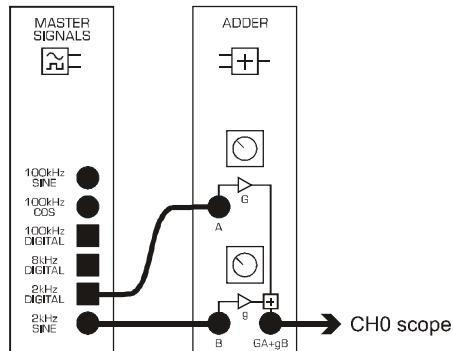

Figure 11: "adjust_the_ADDER" wiring diagram
1. Use patching cords to wire up DATEx blocks according to the wiring diagram in Figure 11.
The AMPLIFIER block on DATEx has one input and one output. This input has variable GAIN. Hence the parameter available for programmatic control is the input GAIN. This is known as "k". Figure 11 shows the AMPLIFIER block as a hardware block and its corresponding low-level VI block.